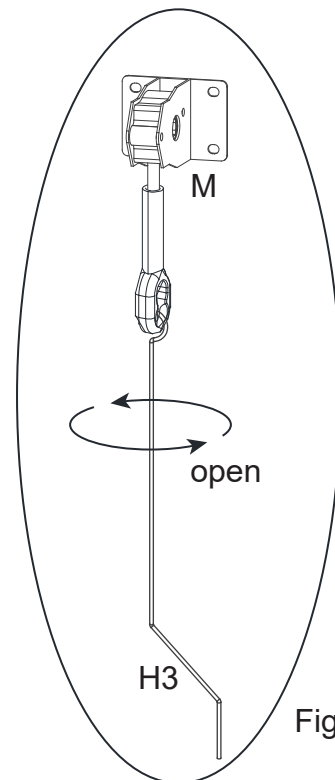

Figure 10.2
10.2 Hang the Crank (H3) on the Spinners (M) and turn to open or close the louvers. See Figure 10.2.